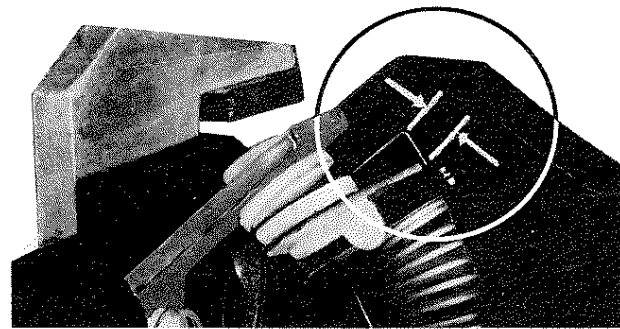

Figure 3
1. With all power removed, check that the electrical interlock (47) has the proper follow-up. With new electrical interlock contacts, the moving contacts (50) should provide at least 1/16" follow-up on each stationary contact when the contact arm reaches its limit of travel; either completely closed or completely opened (Fig. 3).